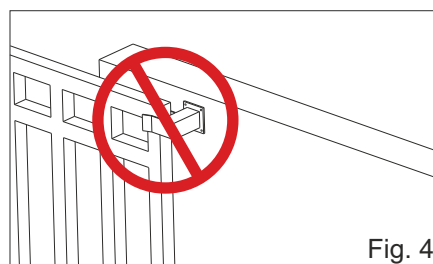
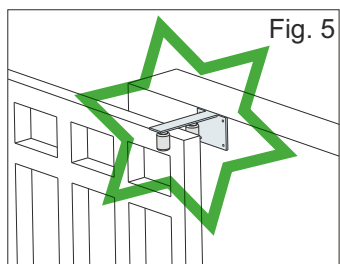

Fig. 4
Fig. 5
- E** - The upper gate slideway has been produced and placed so that the gate is in a perfect vertical position; Furthermore this must be provided with rollers (Fig. 4) (Fig. 5)